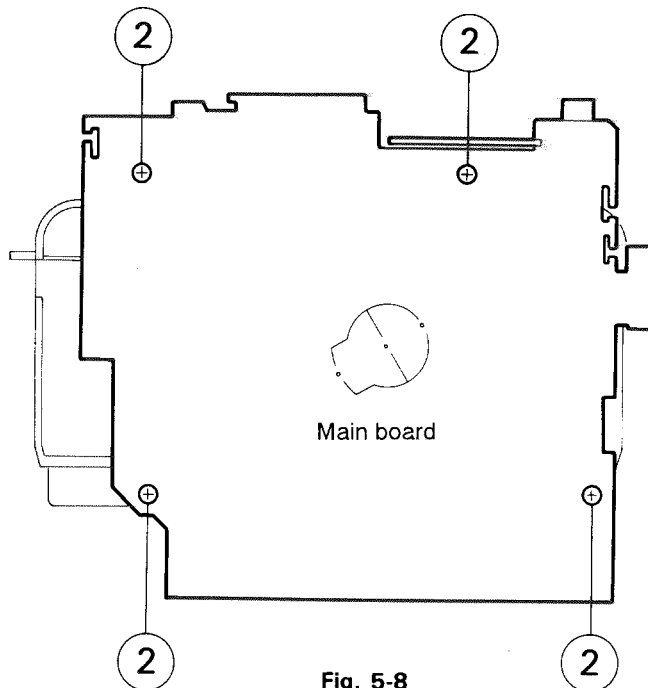

Fig. 5-8
2. From the back of the cassette mechanism assembly, remove the four screws (2) retaining the main board (See Fig. 5-8).